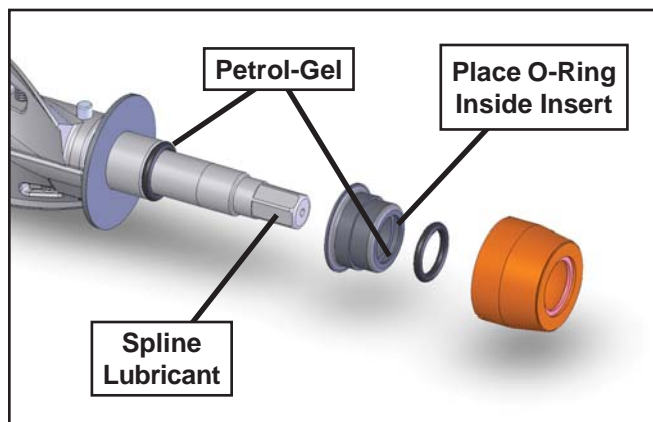

Figure 3-6 Rear Seal Assembly
- C. Install the stainless steel rear seal adapter into the rear seal dry (without lubricant). Lubricate the inside surface of the rear seal adapter, including the adapter o-ring, and install it onto the auger shaft. DO NOT lubricate the outside of the rear seal adapter (Fig. 3-6).